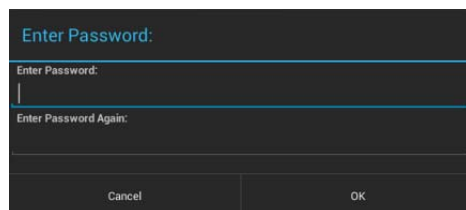

FIG. 85 Enter Password window
Set Password:	Select this option to open the Enter Password window (FIG. 85).
1. In the *Security* page, select **Set Password**. This opens the *Enter Password* window (FIG. 85).